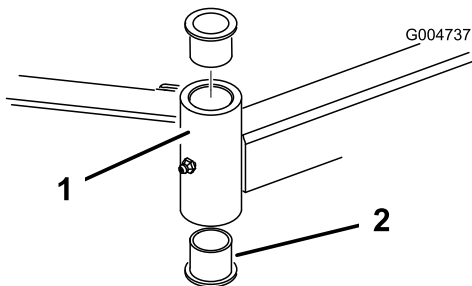

Figure 77
4. Insert a pin punch into the top or bottom of the mounting tube and drive the bushing out of the tube (Figure 77). Also drive the other bushing out of the tube. Clean the inside of the tubes to remove dirt.